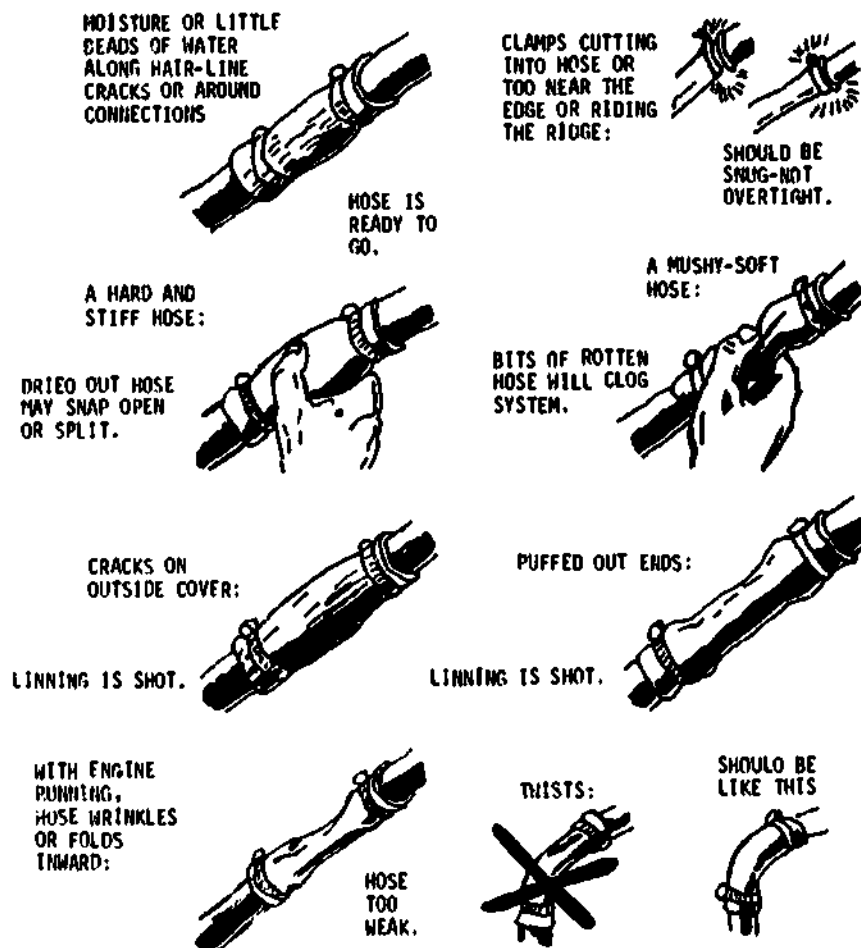

Fig 2-61. Defective or improperly installed hoses.
a. **Hoses and clamps.** While you are working on the engine compartment, give that cooling system a good inspection. Start with the hoses and clamps. If a hose looks like any of those in figure 2-61, it's time to change or adjust the hoses or clamps.